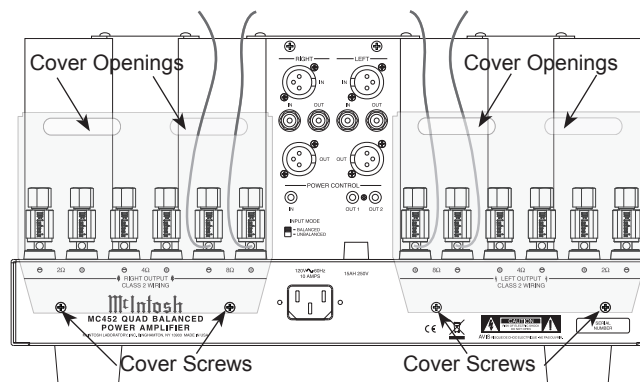

Figure 6 (Outside USA and Canada)
11. Locate the Terminal Connections Covers from the inside of the MC452 shipping carton. Insert the just prepared Loudspeaker hookup cables thru the cover openings, one cover for each channel. Refer to figure 6.
Note: The illustration in figure 6 is connections for 8Ω (ohms) Loudspeakers.
13. Attach the Terminal Connections Covers to the MC452 Rear Panel with the previously removed Screws. Refer to figure 6.